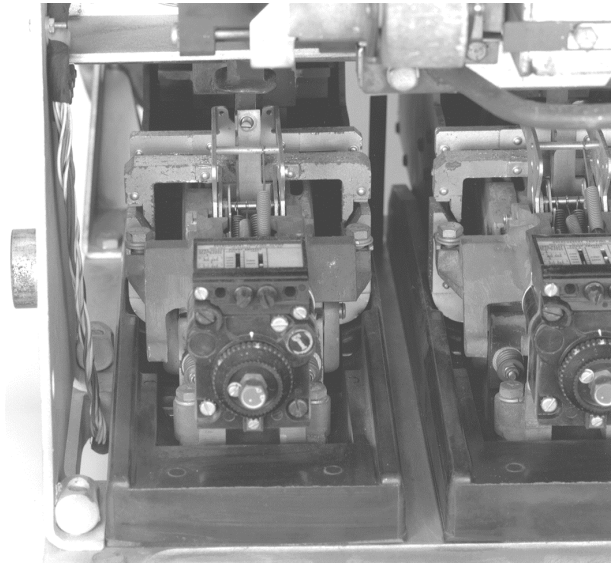

Figure 1. Removing a trip device.
1. Remove and discard the four bolts holding each trip device to a pole of the breaker, as shown in Figure 1.